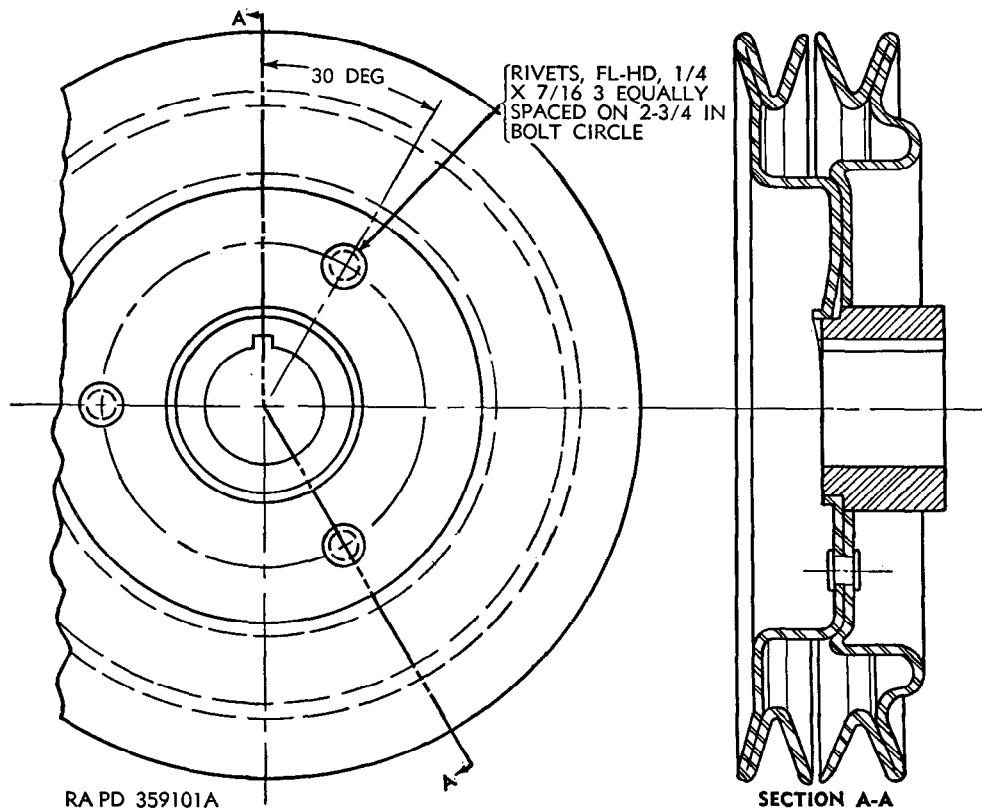

Figure 38. Installation of rivets in pulley.
c. Strengthen Pulley. If inspection of pulley shows that inside flanges are separating at the hub, apply corrective procedure described in (1) through (4) below.
- (1) Remove pulley from engine.
- (2) Lay out three holes in the pulley on a $2\frac{3}{4}$ -inch diameter circle, 30° from centerline of key slot (fig. 38).